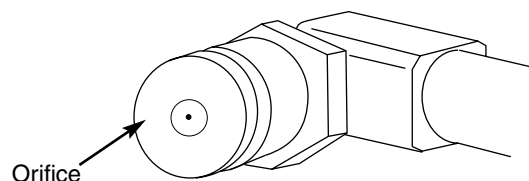

Figure 14
7. If necessary, surface of hose fitting can be cleaned with a brass wire brush. The orifice can be cleaned with a small pin. Figure 14.